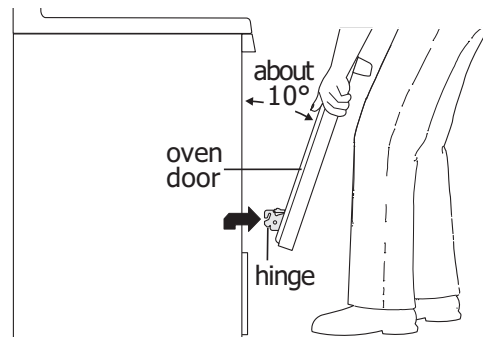
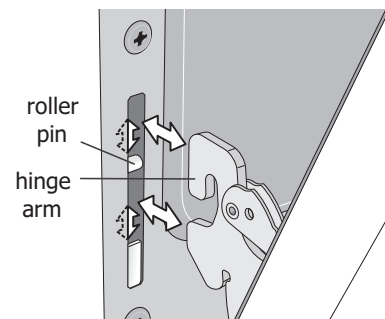

Figure 34: Holding door for removal
Figure 35: Replacement and location of hinge arm and roller pin
3. Firmly grasp both sides of oven door along the door sides. Do not use the oven door handle (See Figure 34).
4. Close the door to approximately 10 degrees from the door frame (See Figure 34).
5. Lift the oven door hinge arms over the roller pins located on each side of the oven frame (See Figure 35).
1. Firmly grasp both sides of oven door along the door sides. Do not use the oven door handle (See Figure 34).
2. Holding the oven door at the same angle as the removal position, seat the hook of the hinge arm over the roller pins located on each side of the oven door frame (See Figure 34 and Figure 35). The hook of the hinge arms must be fully seated onto the roller pins.